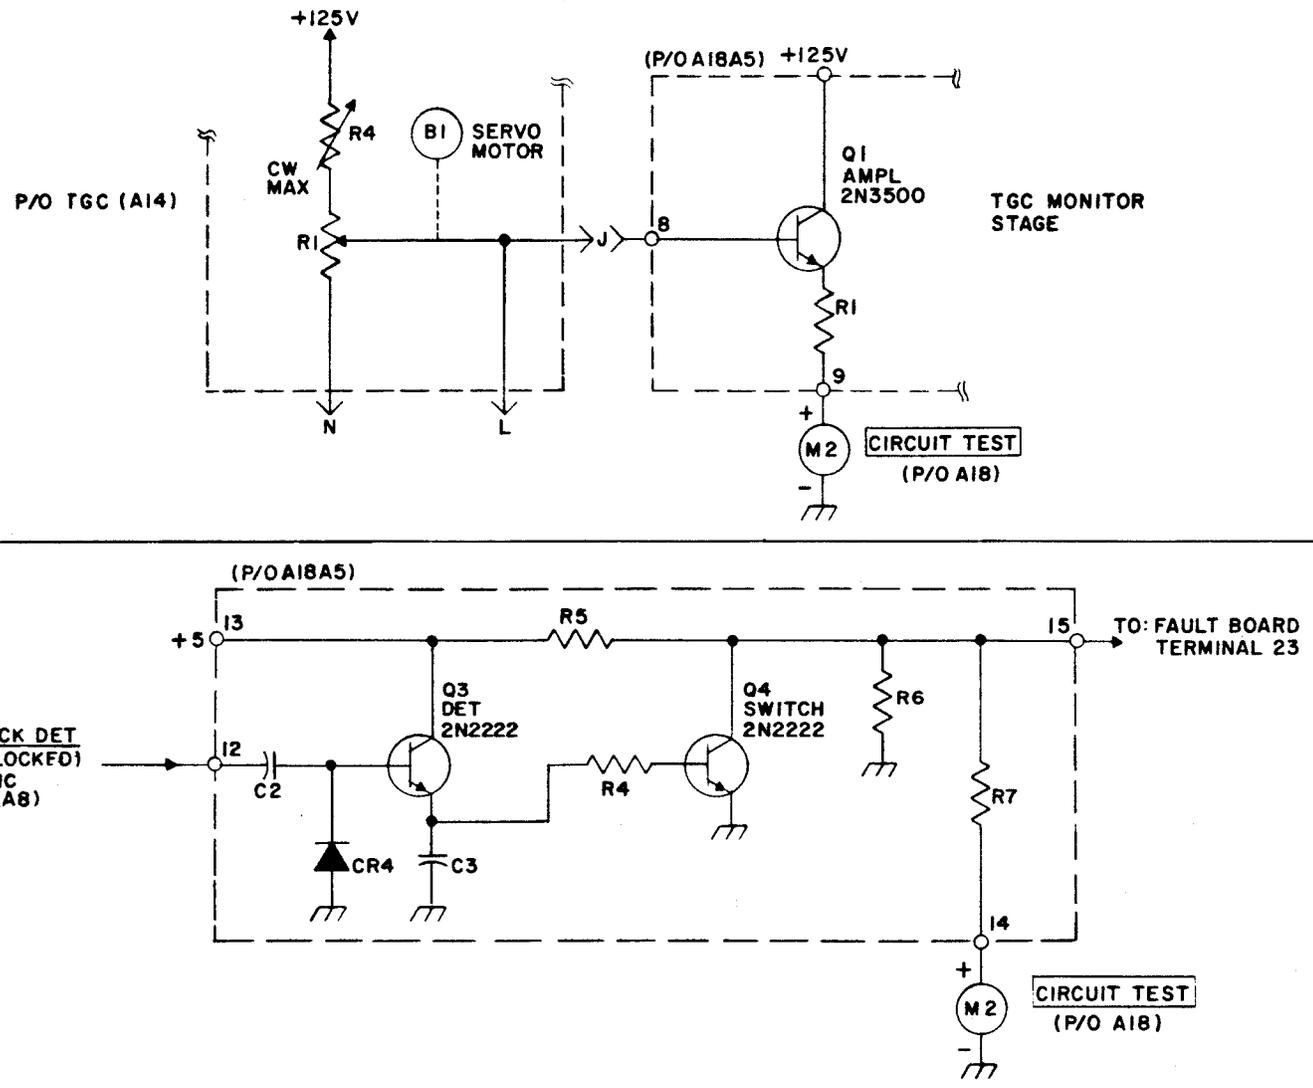

Figure 4-36. Motor Control Board A18A5, Simplified Schematic Diagram
4-33. MOTOR CONTROL BOARD A18A5. (See figure 4-36.)
a. DESCRIPTION. - The following paragraphs describe the function of each motor control board circuit; refer to figure 4-36 for circuit details.
(1) TGC MONITOR. - The TGC monitor circuit consists of emitter-follower Q1. A sample of the dc control potential at transmitter gain control potentiometer A14R1 is applied to the base of Q1. The emitter of Q1 drives CIRCUIT TEST panel meter A18M1 when the test circuit selector switch is in the TGC position, thereby monitoring the TGC dc control signal applied as an agc voltage to the 112 mc amplifier in down-converter A13.
(2) 113.75 MC LOCK DETECTOR. - The 113.75 mc lock detector consists of direct-coupled amplifier stages Q3 and Q4. The base of Q3 monitors the ramp developed in 1.75/113.75 mc frequency generator A8 when it is not locked. The output from the collector of Q4 is applied to fault board A18A2 terminal 23, and also to CIRCUIT TEST panel meter A18M2 via multiplier resistor R7. When the 113.75 mc generator circuit is functioning and locked, the fault board receives a logical "1" and the CIRCUIT TEST meter reads in the "normal" green scale segment.